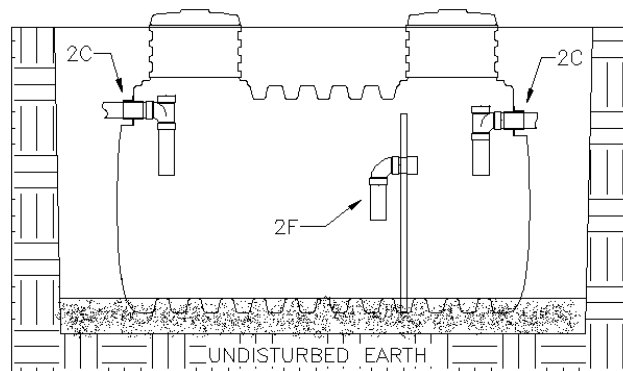

Figure 2: Tank Assembly / Installation
2. Tank Assembly / Installation (Figure 2)